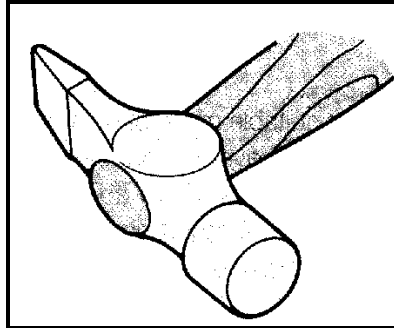

FIGURE 3.1
- 3.1 FIGURE 3.1 below shows a hammer used in the general engineering environment. Answer the questions that follow.